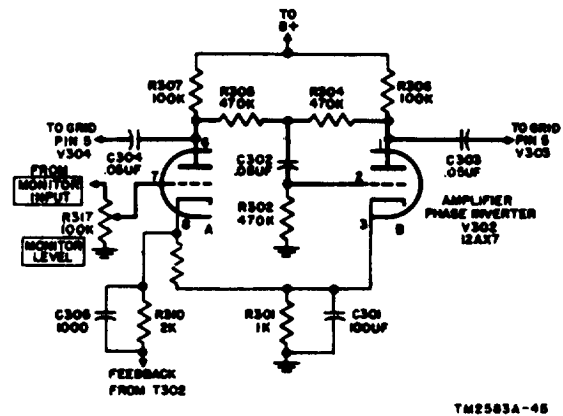

Figure 26. Amplifier phase-inverter circuit, simplified schematic diagram.
*b. Amplifier and Phase Inverter V302* (fig. 26). Input to the audio amplifier circuit are taken from MONITOR INPUT J303 and developed across MONITOR LEVEL control R317. A portion of the signal voltage is applied to the control grid of tube V302A. The amplified output developed across plate load resistor R307 is coupled out to tube V304 by capacitor C304. Amplified signal voltage is also developed across resistors R305 and R304. At the junction of resistors R305 and R304, signal voltage is coupled out by capacitor C302 to the control grid of tube V302B across resistor R302. The amplified signal of V302B is developed across plate load resistor R306 and coupled out to tube V303 by capacitor C303. Feed-back voltage to reduce distortion is taken from the secondary of transformer T302 and fed back to the cathode of tube V302A through filter resistor R310 and capacitor C305. Plate voltage for tube V302A and V302B is taken from the junction of resistor R315 and capacitor C307C.